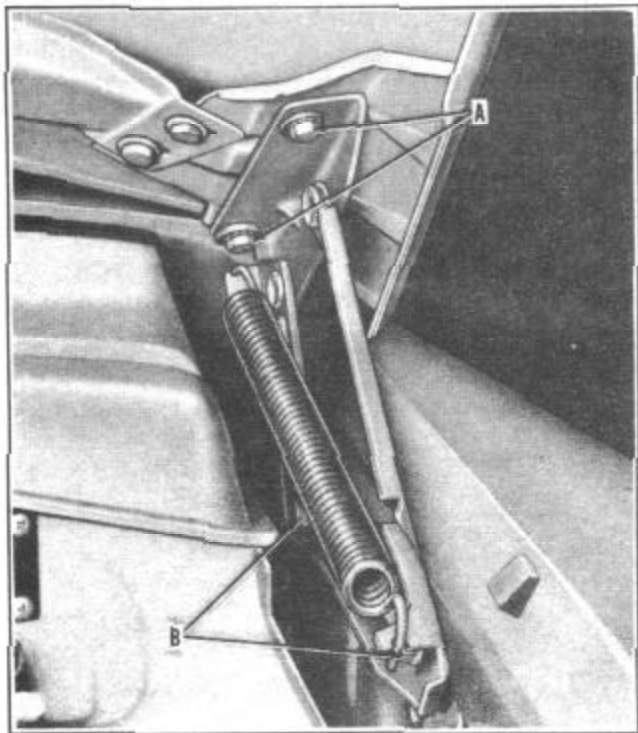
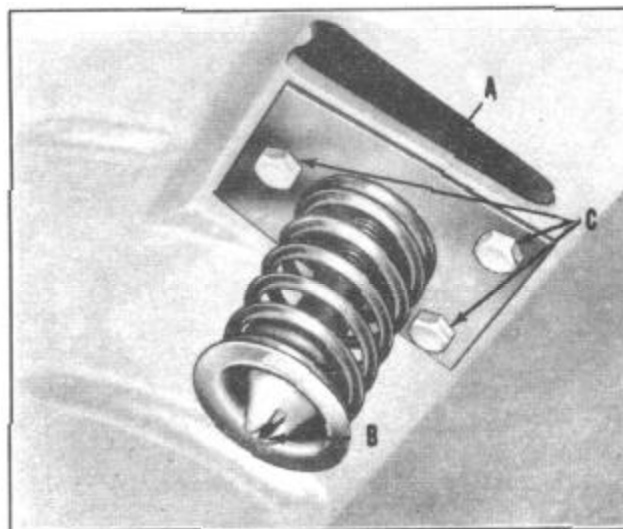

FIGURE 102
FIGURE 103
- Remove the bolts (A), Figure 102, (two each side) attaching the hood to the hood hinges and with the assistance of a helper, remove hood from car.
- Loosen bolts (A), figure 102, (two each side) attaching the hood to the hood hinge; this will allow forward and backward adjustment.
- The up and down adjustment at the rear of the hood can be obtained by loosening the bolts (B) attaching hood hinge to the fender assembly. Loosen the bolts about 1/2 turn. Move hinge up or down a small amount each time until desired position is obtained. Tighten bolts securely each time before lowering hood.
- The up and down adjustment at the front of the hood can be made by loosening the hood lock plunger nut at (A), Figure 103, and with a screw driver turn lock plunger (B) clockwise to decrease and counter-clockwise to increase.
- Remove the three bolts (C), Figure 103, attaching hood lock to hood support and move hood lock.